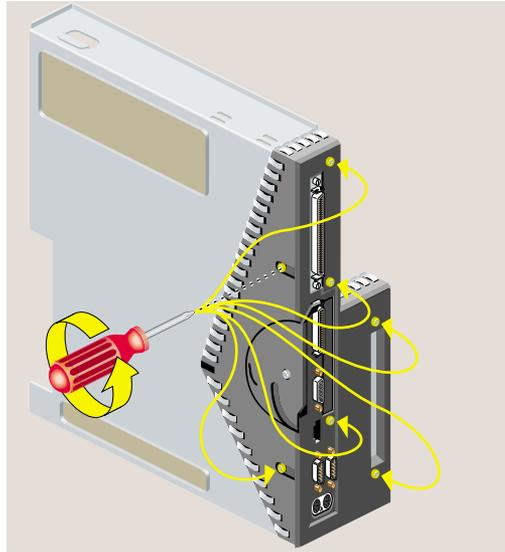

Figure 2-32 Removing the Screws From the Face Plate
- Use a Phillips screwdriver to remove five screws in the rear and two screws on the underside, in the locations shown (Figure 2-32). Keep the two screws from the underside separate. When reinstalling the faceplate you must use the same screws.